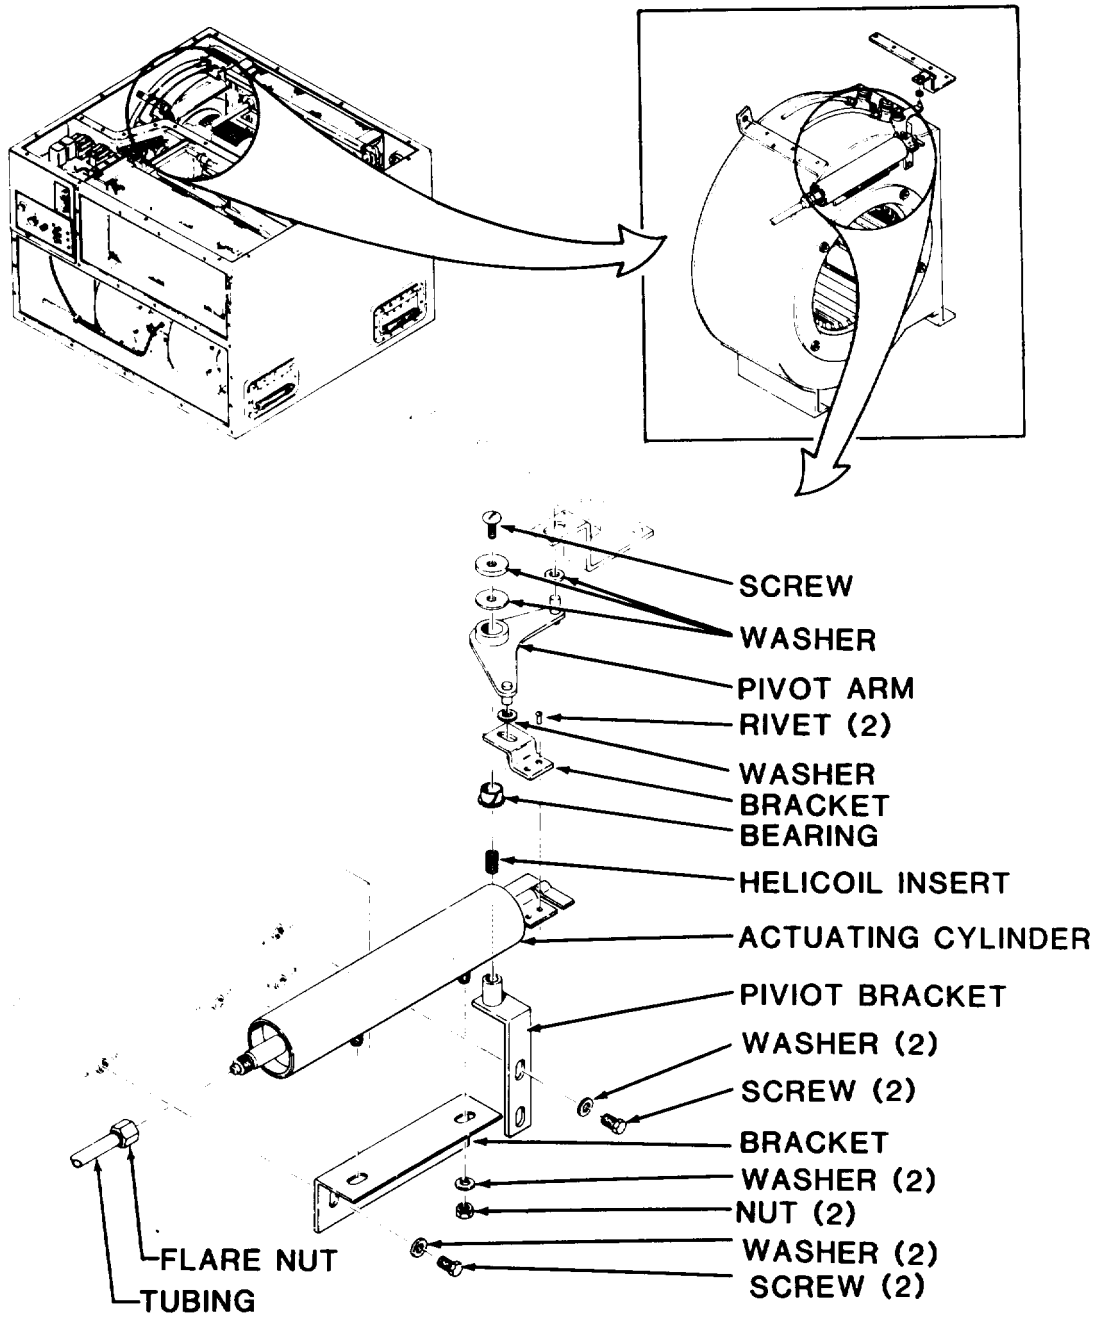

Figure 5-14. Actuating Cylinder
a. Removal. (See fig. 5-14.)
- (1) Disconnect power at power source.
- (2) (Models F18H-3S and F18H-1S) Remove all three top covers (para 4-11). (Models F18H-3SA and F18H-3SB) Remove top cover (para 4-11).
- (3) Discharge and purge refrigeration system per paragraphs 5-11 and 5-12.
- (4) Disconnect refrigeration tubing from actuating cylinder by loosening flare nut.
- (5) Loosen two screws holding pivot bracket. Remove center screw, washers, pivot arm, and bearing insert from pivot bracket.
- (6) Remove two nuts and flat washers and slip actuating cylinder out of the unit.